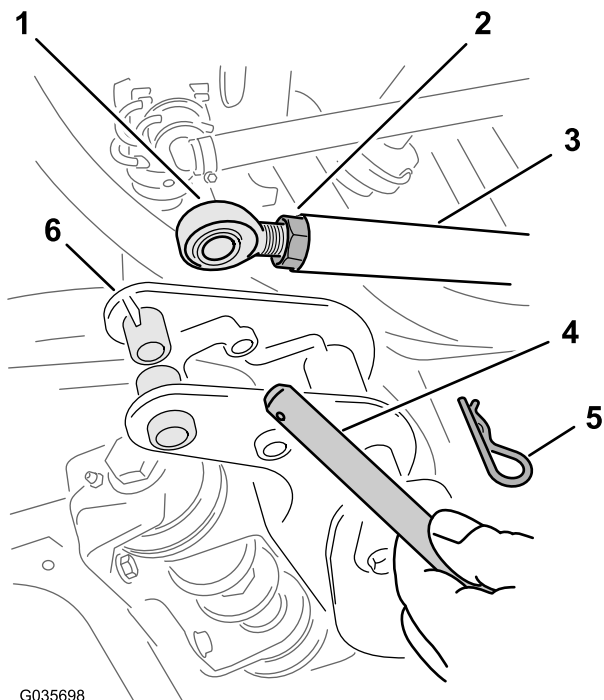

Figure 7
2. At the pivot brackets of the outer-boom sections, remove the hairpin and clevis pin that secures the rod end for the lift cylinder to the pivot bracket (Figure 7).
5. Loosen the jam nuts at the rod ends for each lift cylinder (Figure 7).
6. Adjust the rod end for the lift cylinders end until the hole in the rod ends align with the holes in the pivot brackets for the boom sections (Figure 7).
8. Secure the cotter pins to the pivot brackets with the hairpin cotters (Figure 7) that you removed in step 2.
9. Tighten the jam nut at each rod until the nuts are snug (Figure 7).